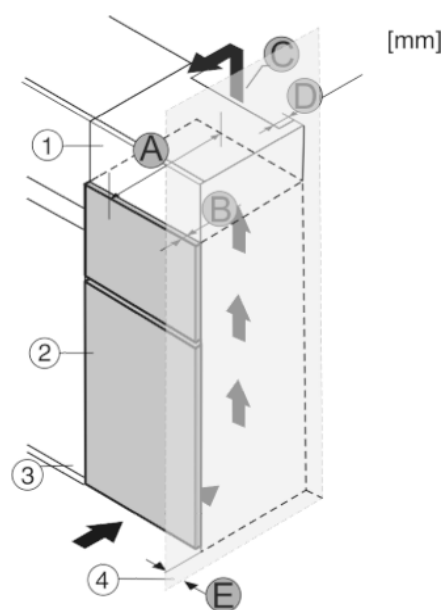

Fig. 18
The appliance can be built into kitchen units. A top cupboard Fig. 18 (2) can be added above the appliance in order to bring the appliance Fig. 18 (1) up to the height of the fitted kitchen units.
The appliance can be installed right next to the kitchen cabinet *Fig. 18 (3)*. The appliance must stick out by the depth *Fig. 18 (B)* from the front of the cabinet so that the doors can be opened fully. The appliance may protrude further depending on the depth of the kitchen cabinets and whether wall spacers are used.
- There must be a ventilation shaft with the depth *Fig. 18 (D)* at the back of the top cupboard over the entire width of the cupboard.
- The ventilation shaft *Fig. 18 (C)* must be observed under the ceiling.
If the appliance is installed with the hinges next to a wall *Fig. 18 (4)* the distance *Fig. 18 (E)* between the appliance and the wall must be observed.